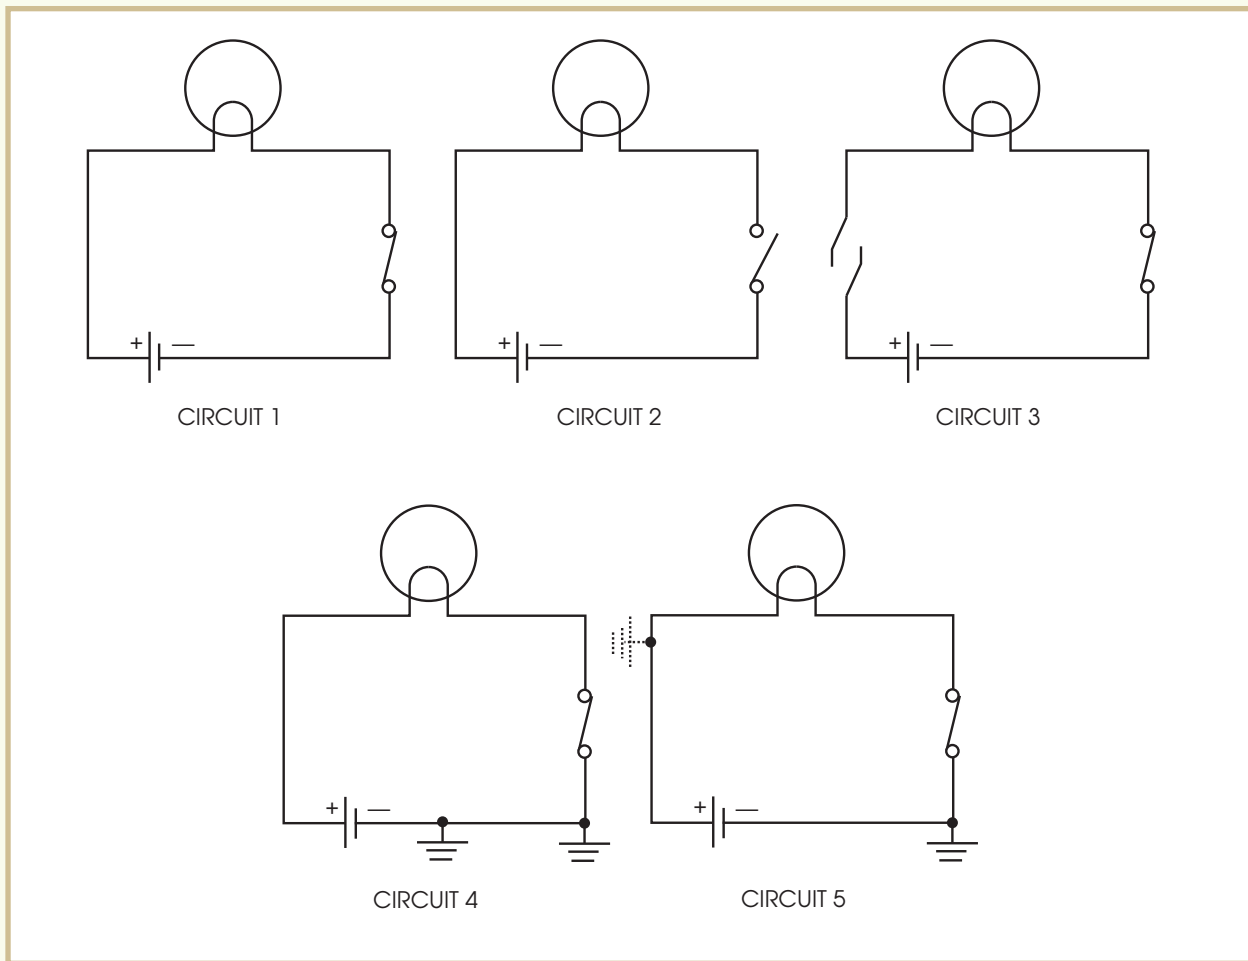

FIGURE A-2—Use this illustration to answer Questions 7, 8, and 9.
7. Which of the schematics in **Figure A-2** shows a break in the circuit?
8. Which of the schematics in **Figure A-2** shows a faulty ground?
9. Which of the circuits in **Figure A-2** will result in an energized lamp?